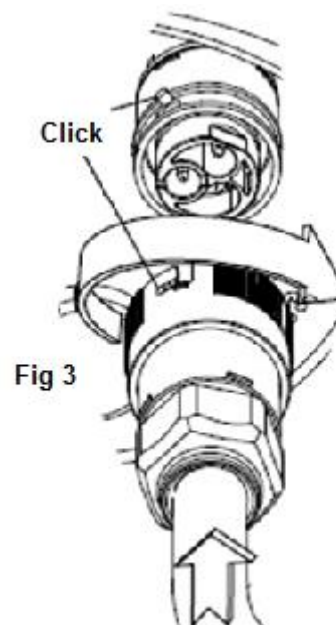

Fig 3
5. Connect the cable to the bottom of the luminaire and twist the housing until it clicks into place. (Fig 3).